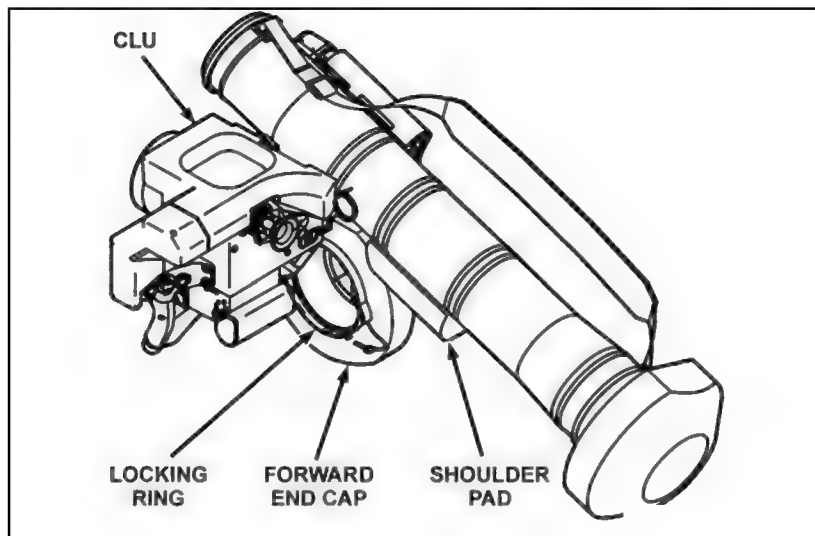

Figure 2-30. Placement of forward end cap in prone position.
(16) Slide the forward end cap forward until the forward end cap locking ring contacts the shock absorber on the battery compartment. This wedges the forward end cap into position (Figure 2-30).